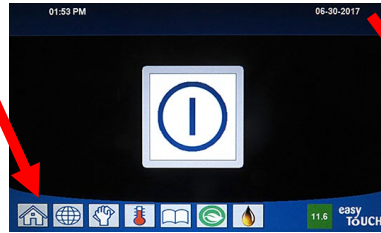

Figure 14
1. **WAIT FIVE (5) MINUTES** before proceeding to the next step.
2. Press the **"HOME"** button on the (see Figure 14).
9. Press the **"HOME"** button (see Figure 14) when finished.